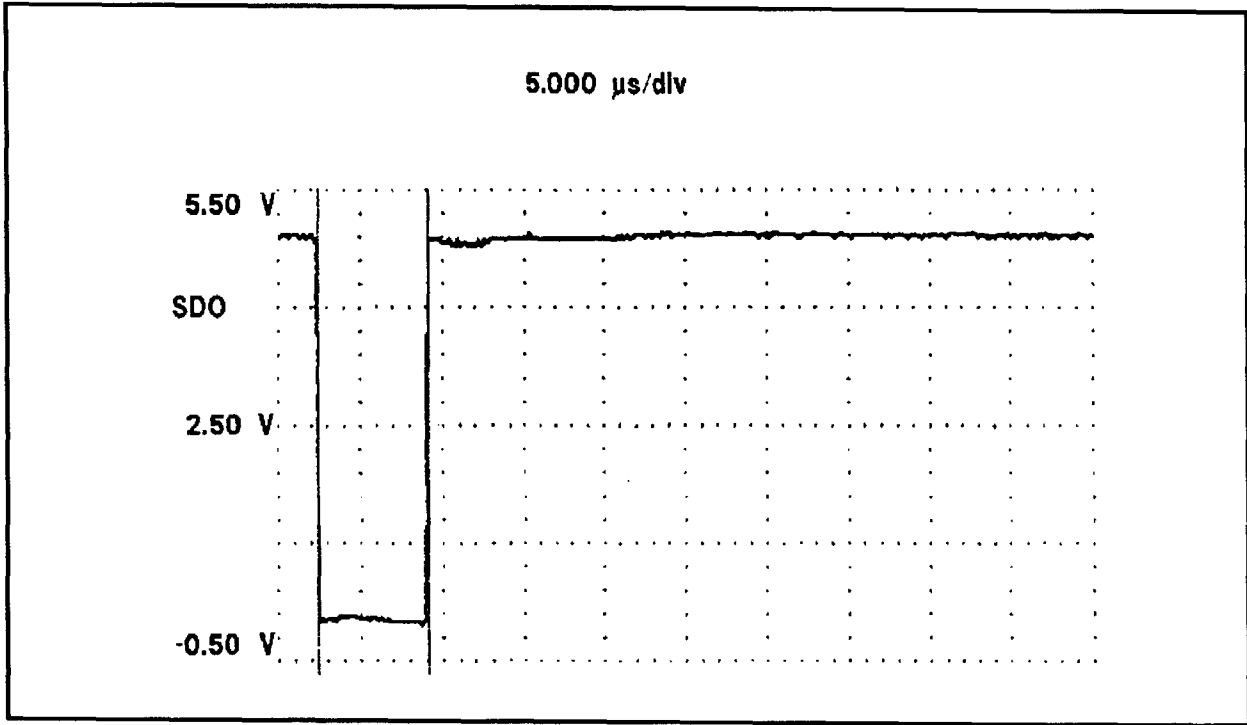

Figure 3-28. TEST 1 or COMMON 1 Scanner PCB SDO Waveform.
10. Observe the TEST 1 Scanner PCB SDO at U1-pin 10 (74HC04) while running the Relay Check utility. Compare with Figure 3-28 and if different, then troubleshoot U1 and U2 on TEST 1 scanner.